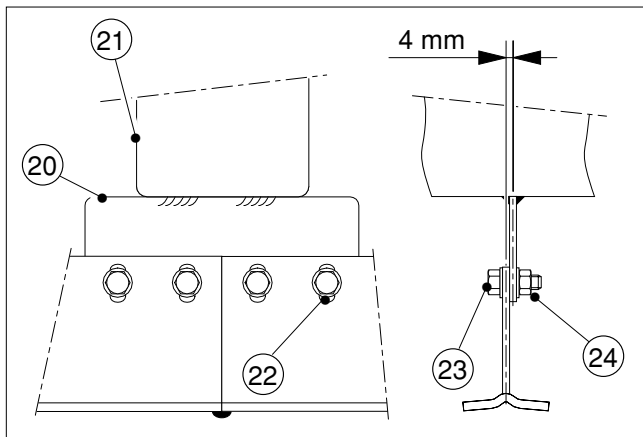

fig.14.1
- welding the connecting strip to the beam. See figure 14.1.
See figure 14.1.